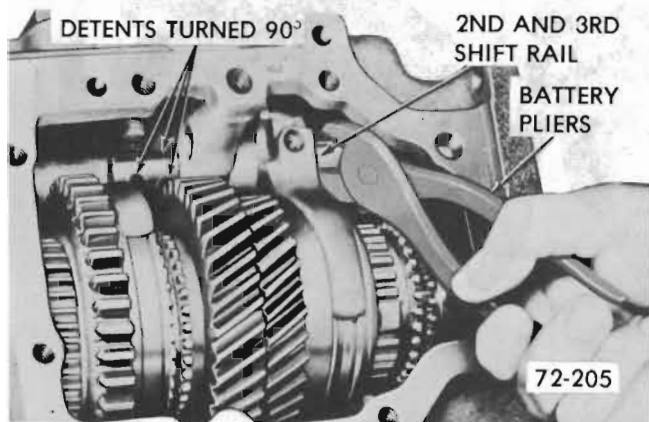

Figure 72-74 - Rotating 2nd-3rd Shift Rail
9. Using battery pliers with jaws padded, rotate second-third shift rail 90 degrees. See Figure 72-74.